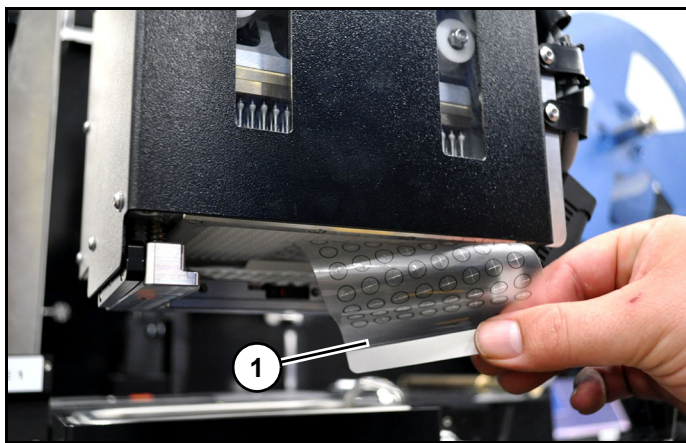

Figure 22
5. Cover bottom of head with a tacky surface (1) (Figure 22) that does not leave any residue.